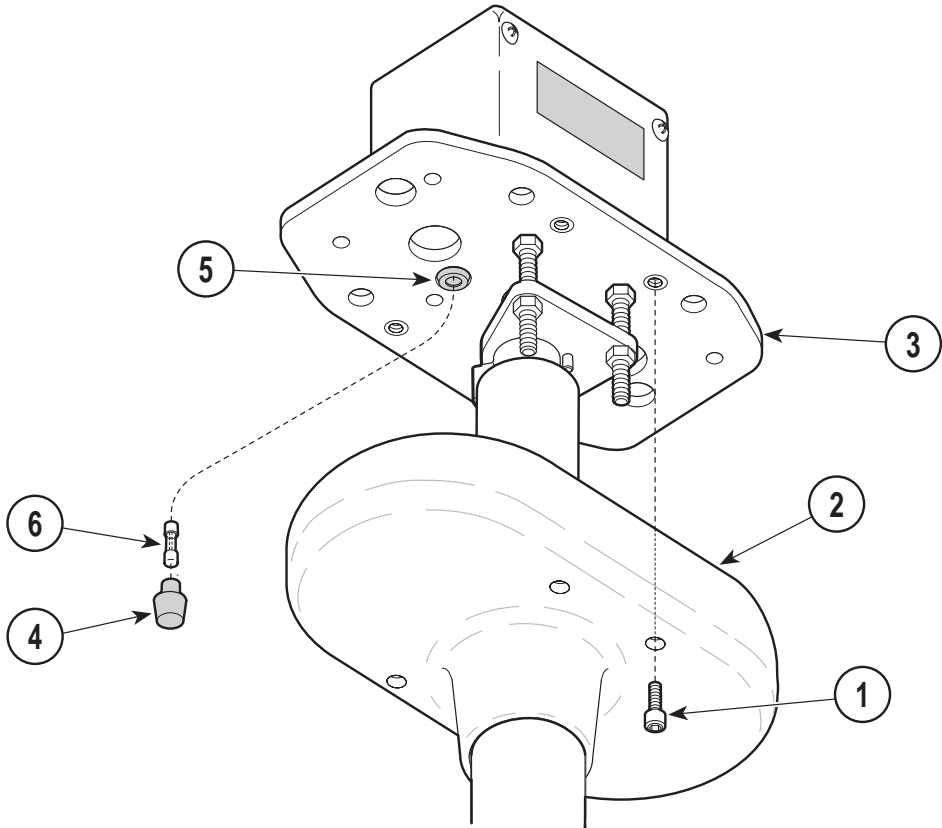

FIGURE 5. FUSE REPLACEMENT
2. Remove four screws (1, Figure 5) and lower ceiling cover (2) from ceiling plate (3).
3. Simultaneously push in on fuse cap (4) and rotate it 1/4 turn in counter-clockwise direction; then pull fuse cap from fuse holder (5).
4. Pull fuse (6) out of fuse cap (4).
7. Insert one end of the new fuse (6) into the fuse cap (4).
8. Simultaneously push fuse cap (4) into fuse holder (5) and rotate it 1/4 turn in clockwise direction to secure it.
9. Position ceiling cover (2) on ceiling plate (3) and secure with four screws (1).